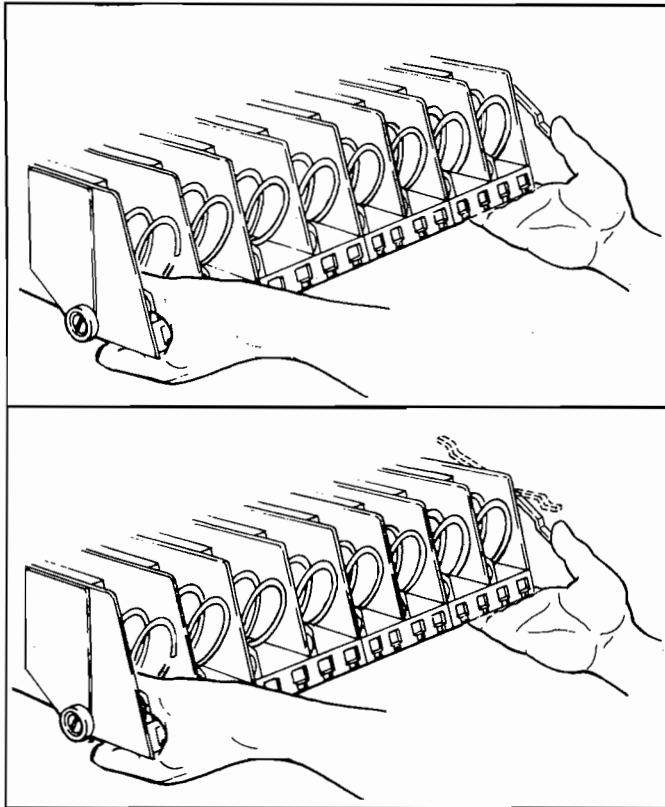

Figure 1. MOVING SHELF TO LOADING POSITION.
3. **LOADING SNACK SHELVES:** Open door to full open position, push down on white plastic lock lever (Figure 1) on right side panel by shelf to unlock shelf, holding lever down. Grasp the shelf, under both front corners (see Figure 1), lift front shelf slightly and pull forward until shelf